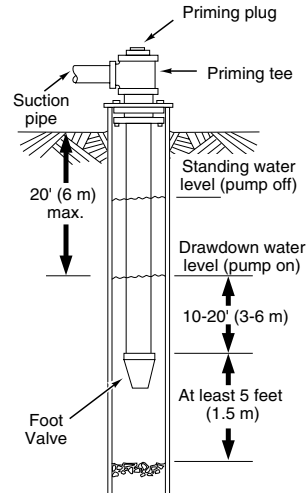

Figure 1 – Cased/Dug Well Installation
5. When using a foot valve, a priming tee and plug are recommended (Figure 1).
5. If long, horizontal pipe runs have to be used, install a priming tee between the check valve and the well head (Figure 1). Use schedule 80 or iron pipe.